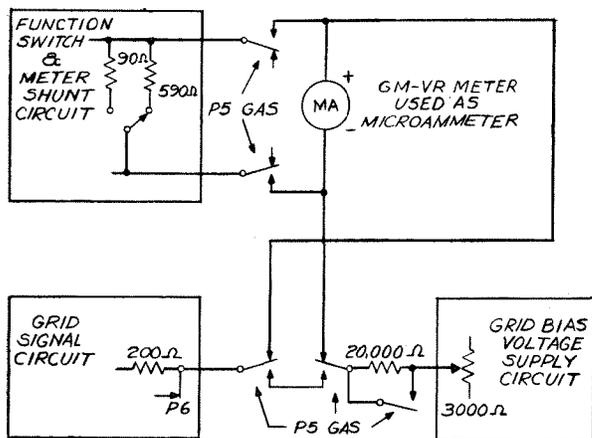

Fig. 6 - Grid Current Gas Test Circuit
2.27 Gas current in a tube, or grid leakage current due to poor grid-to-filament insulation, may be detected by the switched insertion of the GM-VR METER into the grid circuit of a tube under test, as shown in Fig. 6 and described in 2.20 (b). In this setup the normal dc pulsating voltage is applied to the screen grid